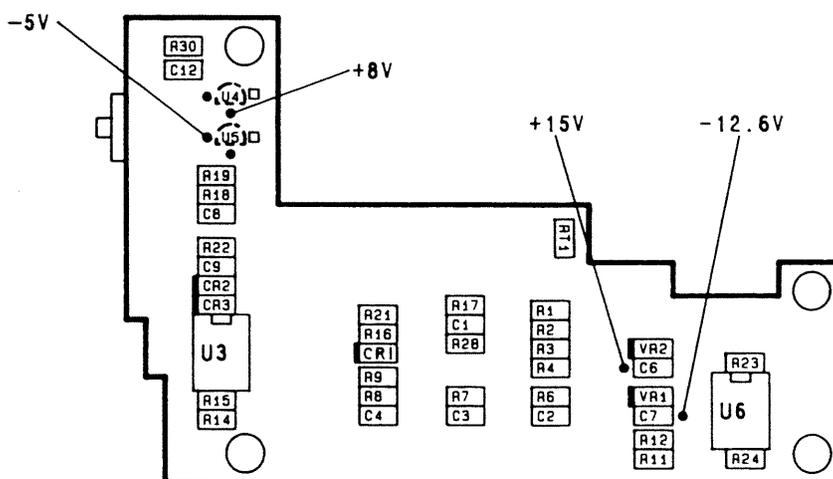

Figure 7-1. A2 Preamplifier Power Supply Check Points
3. Refer to Figure 7-1 and check the power supply voltages of +15, -12.6, +8 and -5 volts at the four pads indicated. The power supply tolerances follow: